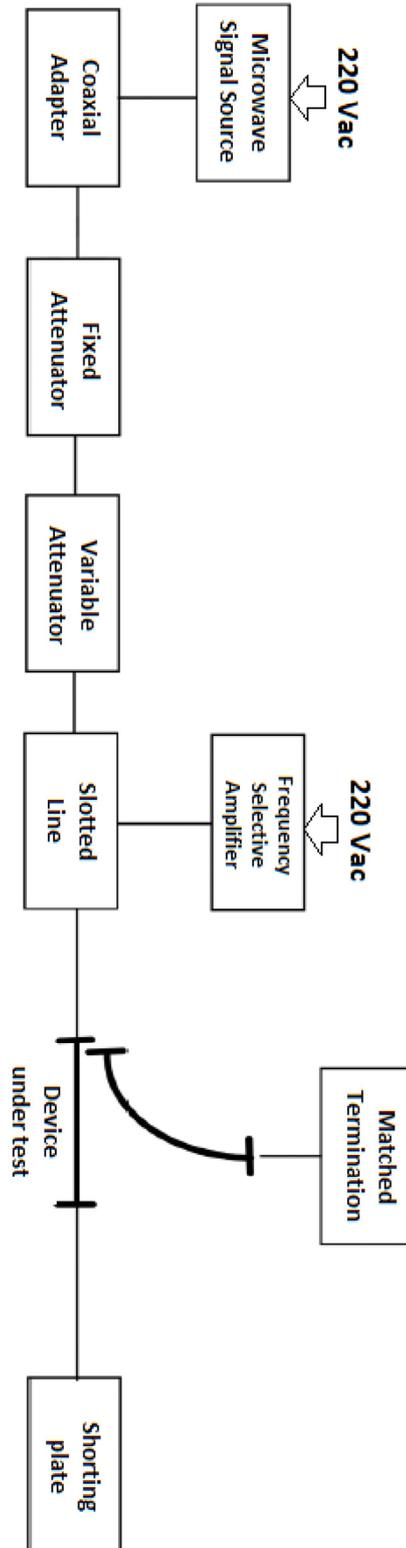

Figure 4.8.5. Setup diagram for the measurement of low values of attenuation.
- (1) Set up the equipment as shown in Figure 4.8.5 and/or Figure 4.8.6 and/or Figure 4.8.7.